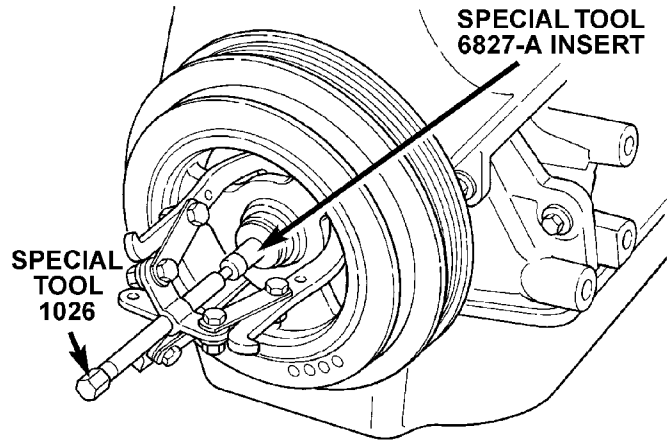
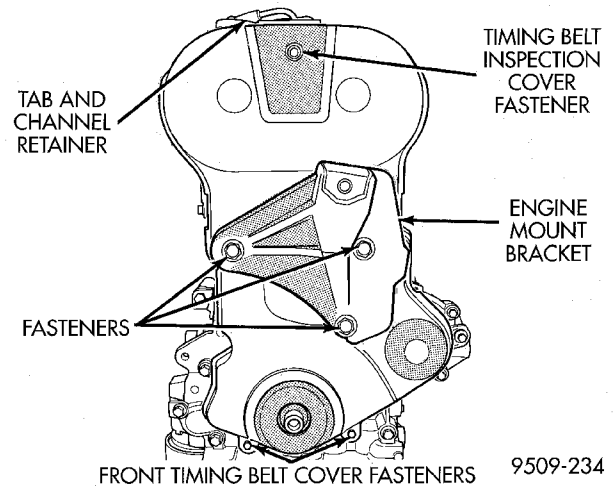

Fig. 39 Crankshaft Damper—Removal
Fig. 40 Front Timing Belt Cover
(3) Remove crankshaft damper bolt. Remove damper using Special Tool 1026 and Insert 6827-A or equivalent (Fig. 39).
(4) Lower vehicle and place a jack under engine
(5) Remove right engine mount. Refer to procedure outlined in this section
(6) Remove right engine mount bracket (Fig. 40)
(7) Remove timing belt cover fasteners, remove cover (Fig. 40).